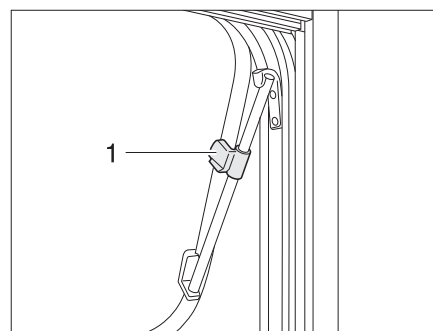

Fig. 11 Hinged window with rotary hinges, open
- Open the hinged window until the required position has been reached and secure in position using the knurled knob (Fig. 11,1).
- Turn the knurled knob (Fig. 11,1) until the latch is released.